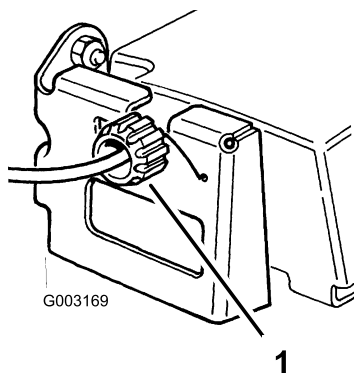

Figure 26
2. Rotate the control knob clockwise a half turn if the lawn mower does not self-propel. If the lawn mower creeps forward, rotate the knob a half turn counterclockwise to loosen the belt (Figure 26).